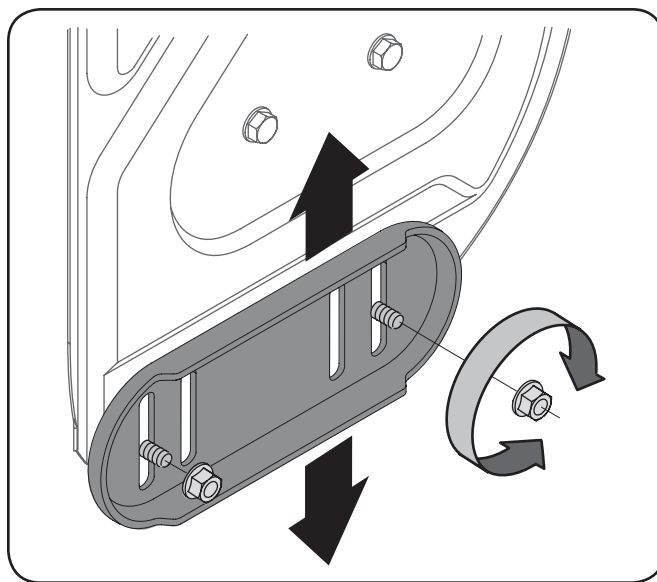

Figure 3-8
1. Loosen the four hex nuts (two on each side) and carriage bolts. Move skid shoes to desired position. See Fig. 3-8.